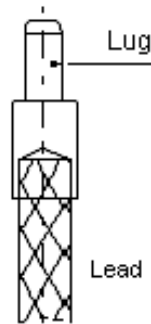

Fig. 10
- Remove the copper lug (2) from the central tube of the bushing;
- Make a hole, in the lug (fig. 10), having diameter at least 2 mm higher than that of the connection and max. 2 mm lower than that of the lug;